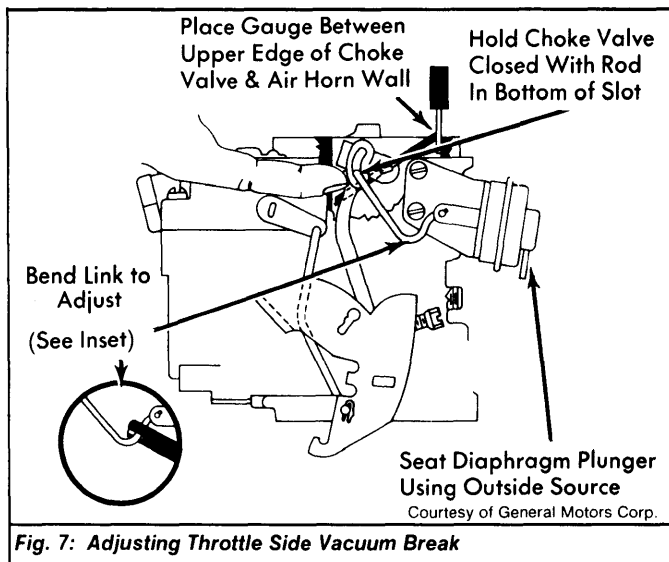

Fig. 7: Adjusting Throttle Side Vacuum Break
1) Use outside vacuum source and apply enough vacuum to seat diaphragm. See Fig. 7. Hold choke valve closed with rod in bottom of slot.